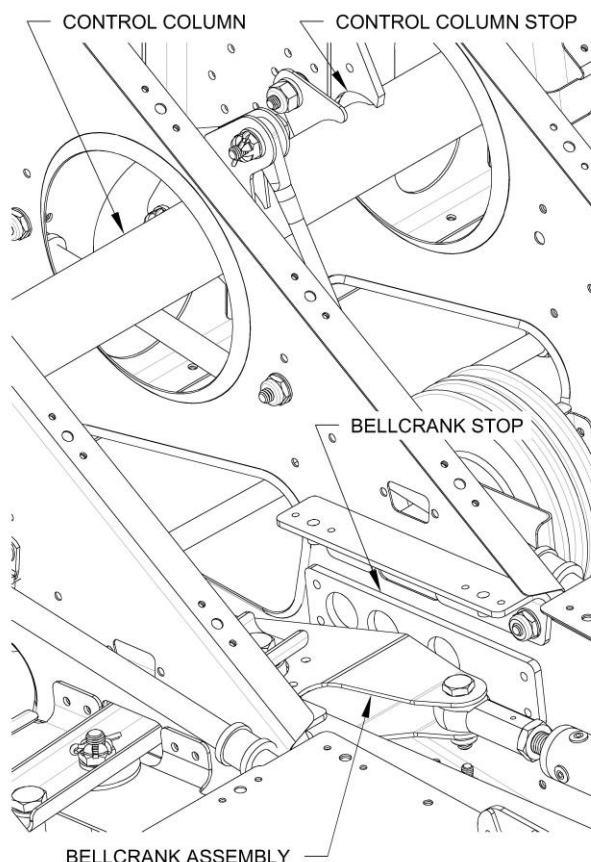

Figure 5: Control Stops
- Make sure the stabilator contacts its up and down stops before the WD-1210 Control Column contacts its up and down stops. If not, loosen and tighten the stabilator cable tensioner barrels an equal and opposite amount until the travel is full and correct. The control column stops must limit excessive forward and aft pressure. The bellcrank stops must limit the left and right control stick motion. See **Figure 5**.